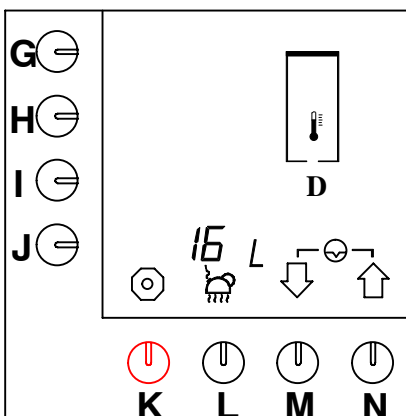

Fig. 53 Resetting the day counter of the HW system
- Press selection key (M.)↓ until fig.53 appears on the display.